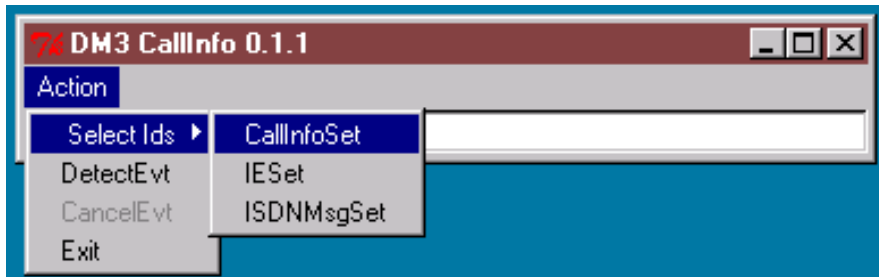

Figure 3. CallInfo Action Menu
1. Click the **Action** menu on the *CallInfo* display (Figure 3). Highlight **Select Ids** and select the group of call-related events you want to trace (**CallInfoSet**, **IE Set** or **ISDNMsgSet**).